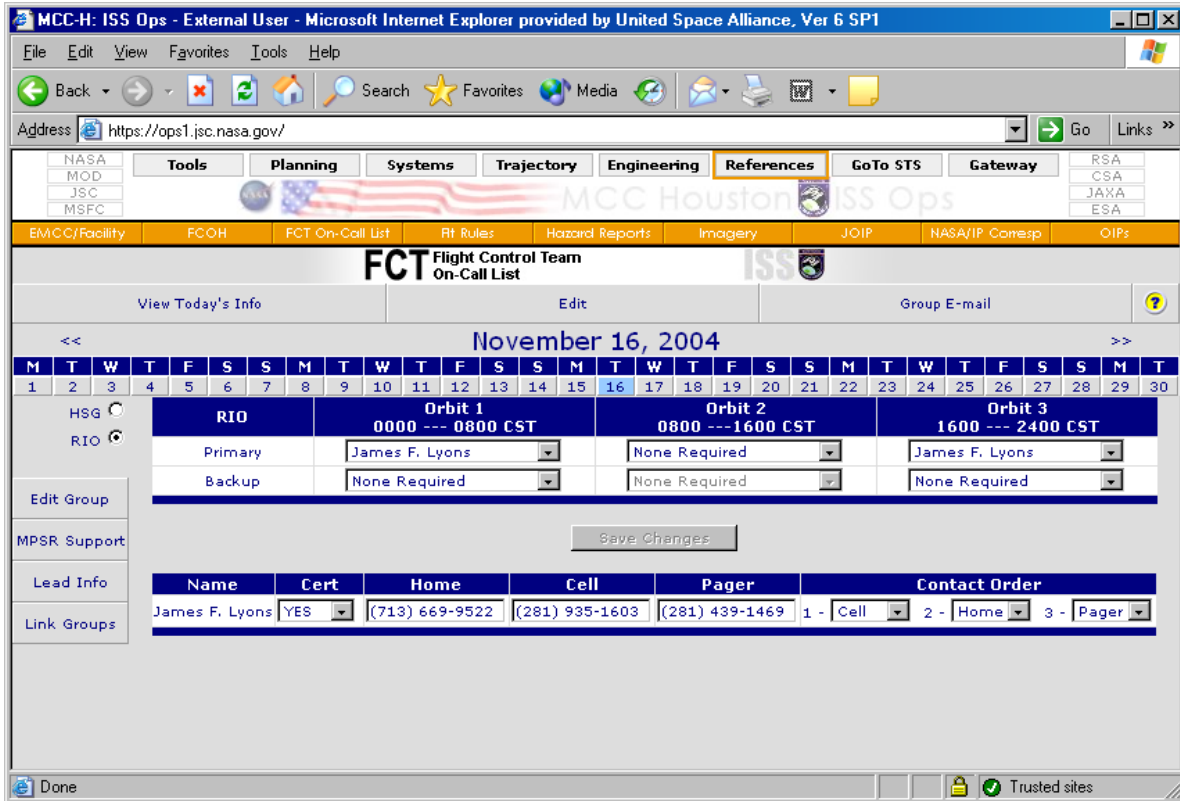

Figure 5-16. On-call edit window
3. The window shown in Figure 5-16 comes up.